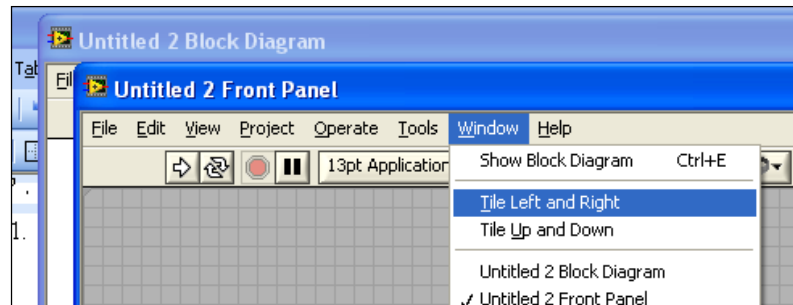

Figure 2. The “Front Panel” and “Block Diagram” windows.
2. Two windows will appear: a) the **Front Panel** and b) the **Block Diagram**. (You could tile both windows side-by-side by selecting [**Window**]→[**Tile Left and Right**] menu item as shown in Figure 2).